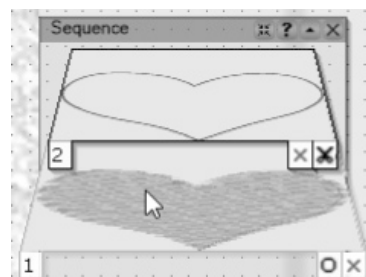

Fig. 19
8. Select the heart *Fill* by clicking on the plate in the *Sequence Manager* (See Fig. 19).